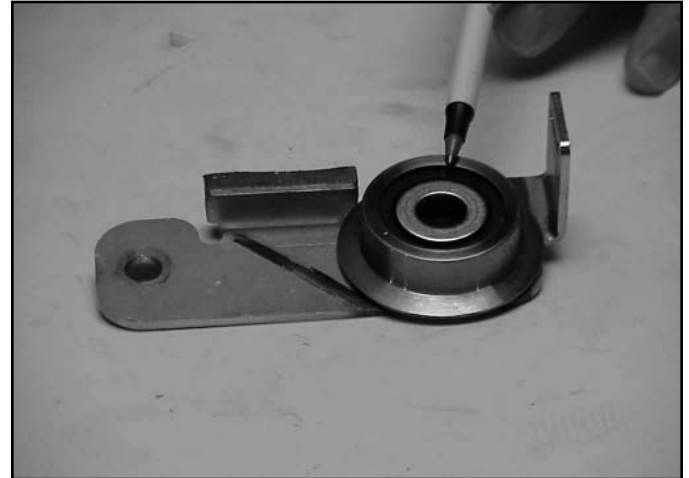

Fig 221
2. Place the bearing with the flange side down on the spacer and place the washer on top of the bearing (Fig. 221).